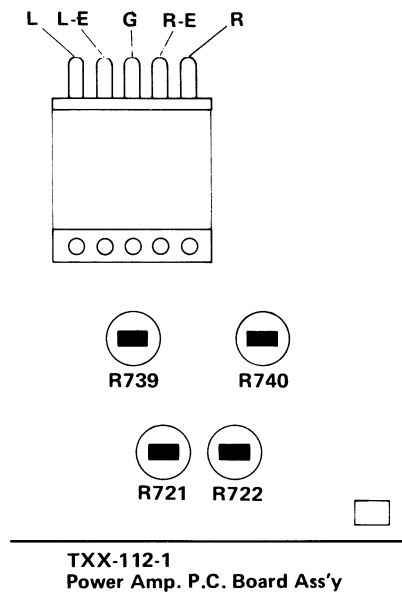

Fig. 22A
1. Set R721 (R722) located on TXX-112-1 to center position before pressing the power switch on. Refer to Fig. 22A.
3. Adjust R721 (R722) for DC VTVM reading of 0 mV. Refer to Fig. 22A.